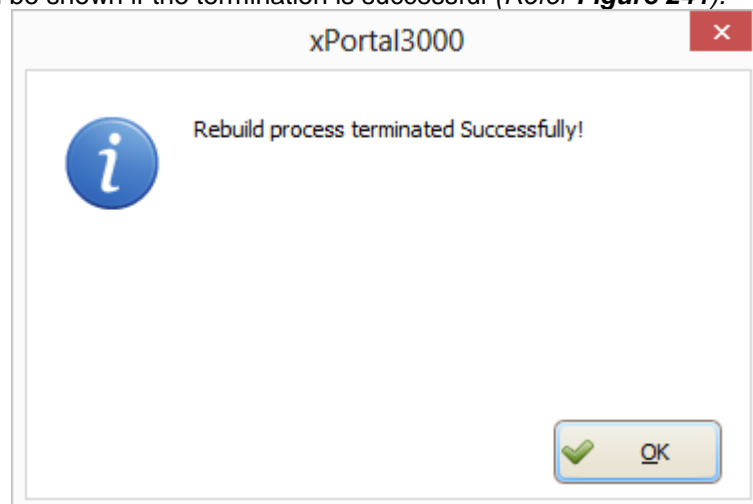

Figure 241 - Successfully Terminate Rebuild
4. A dialog box will be shown if the termination is successful (Refer **Figure 241**).